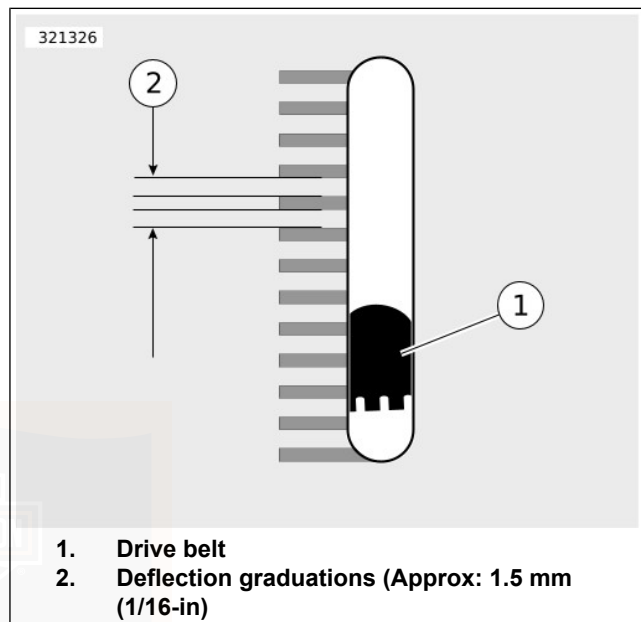

Figure 79. Belt Deflection Window
- a. Slide O-ring (4) to zero mark (3).
- b. **Models equipped with belt deflection window:** Fit belt cradle (2) against bottom of drive belt in line with belt deflection window.
- c. **All other models:** Fit belt cradle (2) against bottom of drive belt halfway between drive pulleys.
- d. Press upward on knob (6) until O-ring slides down to 4.54 kg (10 lb) mark (5) and hold steady.
- a. **Models equipped with belt deflection window:** See Figure 79. Measure belt deflection as viewed through belt deflection viewing window while holding gauge steady. Each deflection graduation is approximately 1.6 mm (1/16 in)